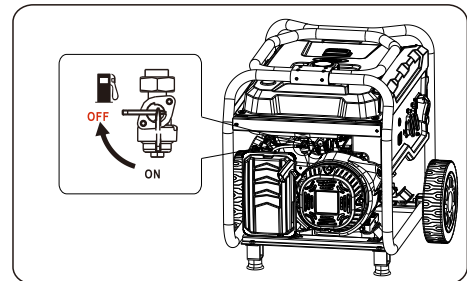

Fig 17
- Turn the fuel valve to the "OFF" position.(see fig 17)